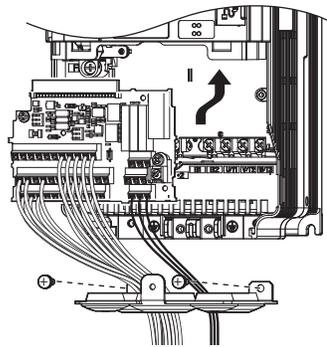

Figure 91 Drive Replacement: Installing the Control Terminal Board
1. After wiring the main circuit, connect the terminal block to the drive as shown in Figure 91. Use the installation screw to fasten the terminal block into place.